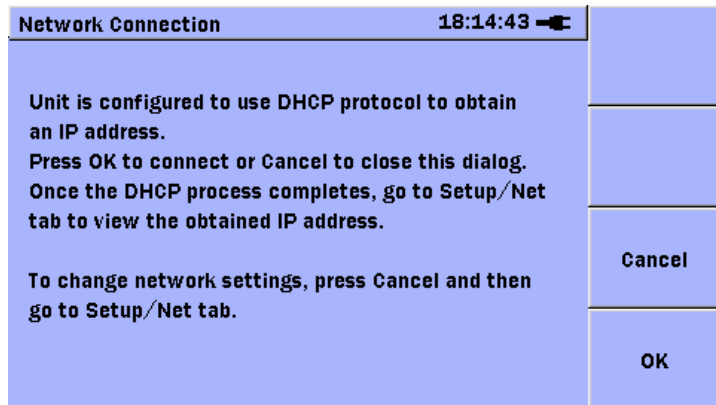

Figure B.1-3 DHCP Pop-Up
5. Connect the USB end of the USB-Ethernet converter to the USB type A port of the controller (see Figure 1.5-1). The screen shown in Figure B.1-3 will be displayed.